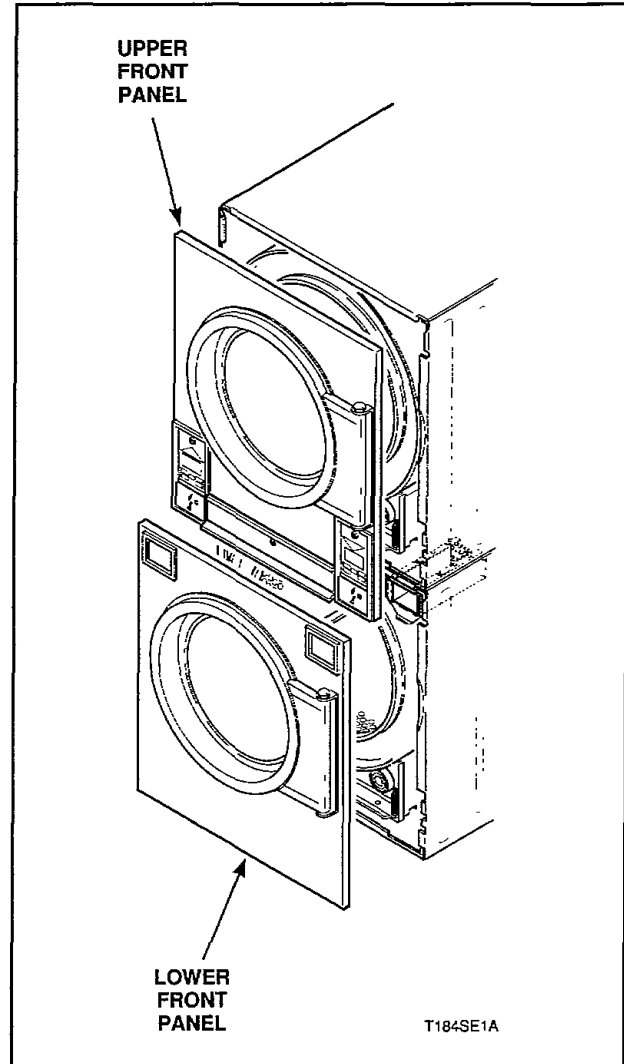

Figure 5
- While supporting front panel, tip the top forward slightly and lift up and out far enough to disconnect electronic control (upper tumbler only), Figure 5.